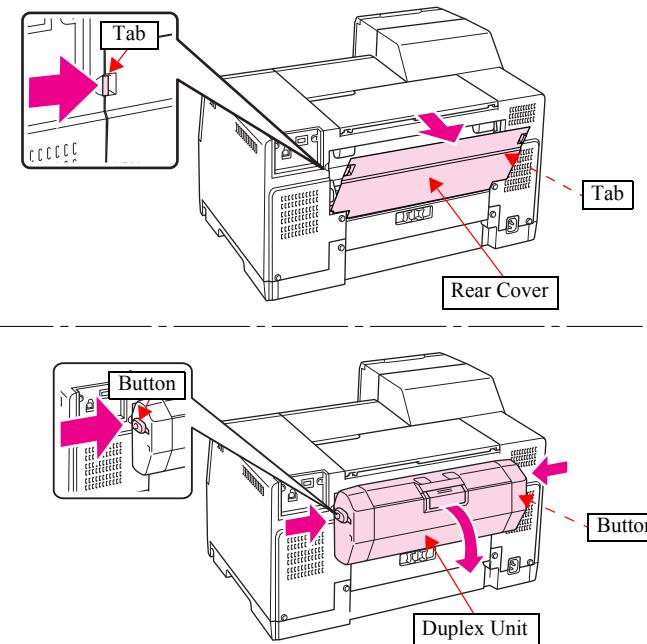

Figure 4-23. Removing the Rear Cover / Duplex Unit
1. Push in the tab on both sides of the Rear Cover to release the lock, and remove the Rear Cover. See Figure.4-23.
1. Push in the button on both sides of the Duplex Unit to release the lock, and remove the Duplex Unit. See Figure.4-23.